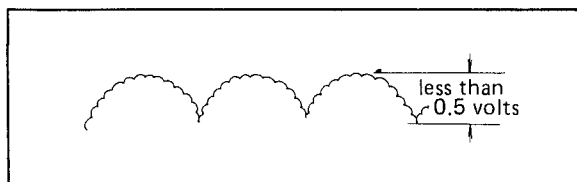

Fig. 6-14
4. Then set the unit to play mode then press the PAUSE key and verify AC ripple of TP-9 as shown in Fig. 6-14. If 1–2 volts AC ripple appears on TP-9, the drum DC motor will have replaced.